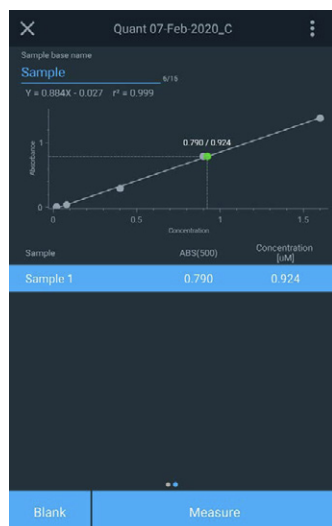

Figure 5.
5. The software will automatically generate a Beer's Law plot from the entered concentration data and measured absorbance values. Record the slope of the line in your lab report as  $\epsilon$  (Figure 5). Use this plot to complete Part 4.